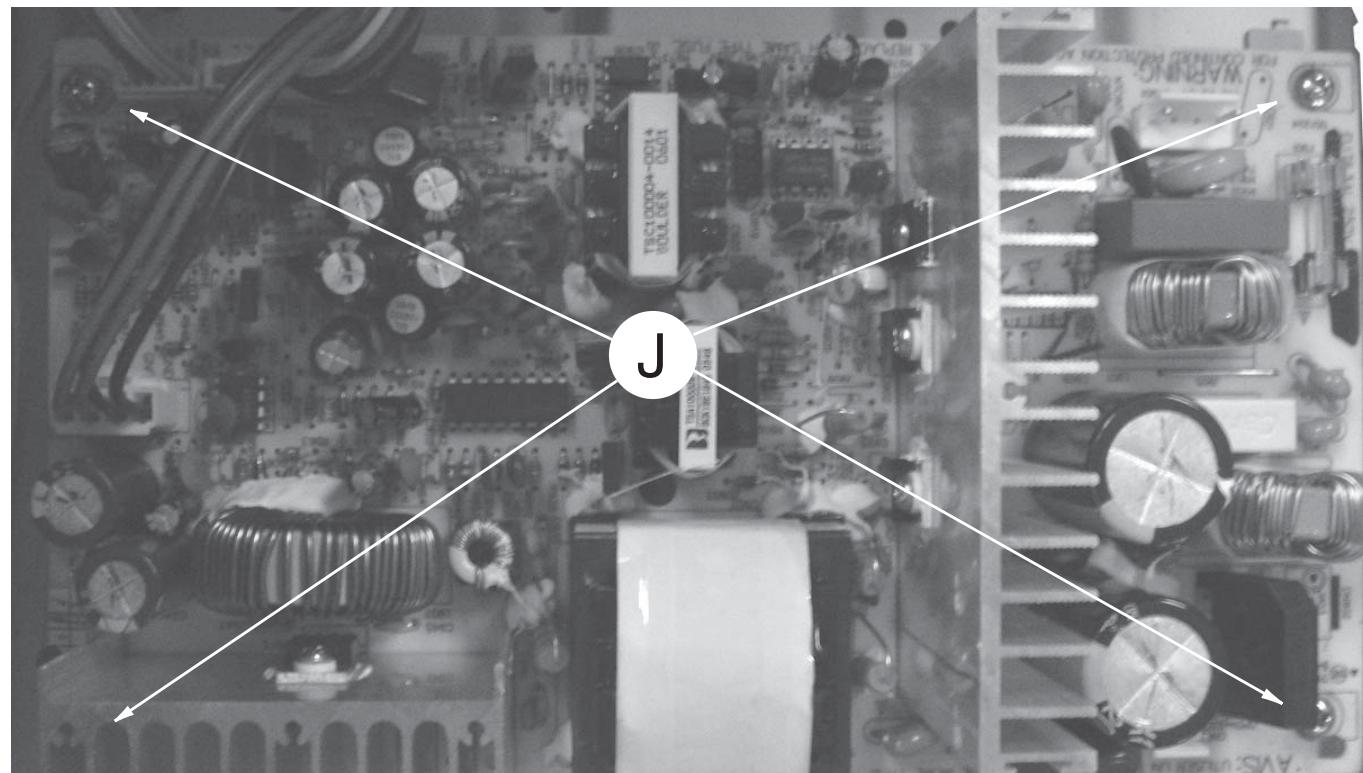

Figure 13
- 1) Loosen 4 screws 'J' to remove the Power Board figure 13.